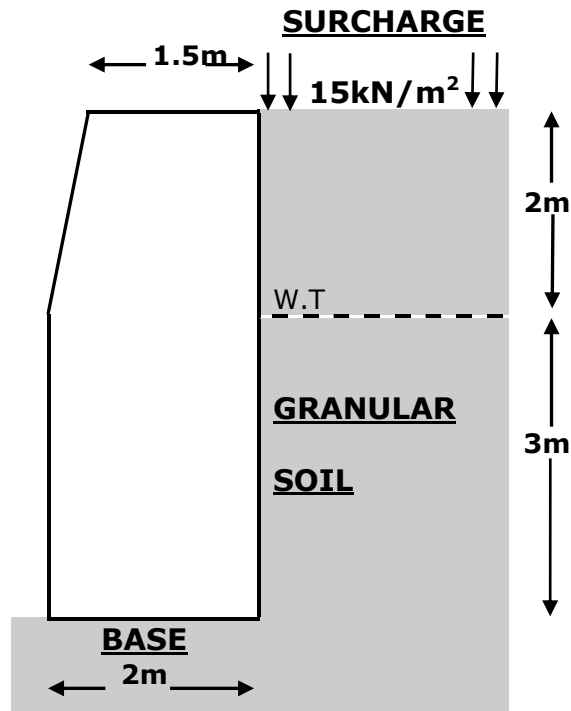

Figure Q1
1. A reinforced concrete gravity wall, 1.5m wide at its top and 2m wide at its base, is resting upon and also retains 5.0m of granular soil. A cross section through the wall is shown in Figure Q1.